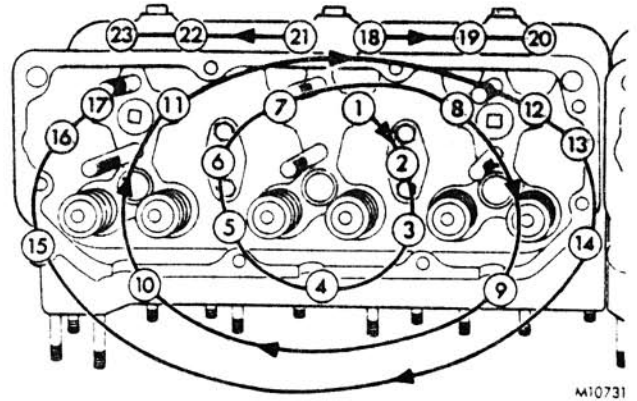

FIG. 1. CYLINDER HEAD NUT TIGHTENING SEQUENCE
3. Refit nuts and tighten in the sequence shown in Fig. 1 refer to DATA for torque figures.
- c. Re-tighten nuts see Fig. 1 for sequence and DATA for the final torque figures.